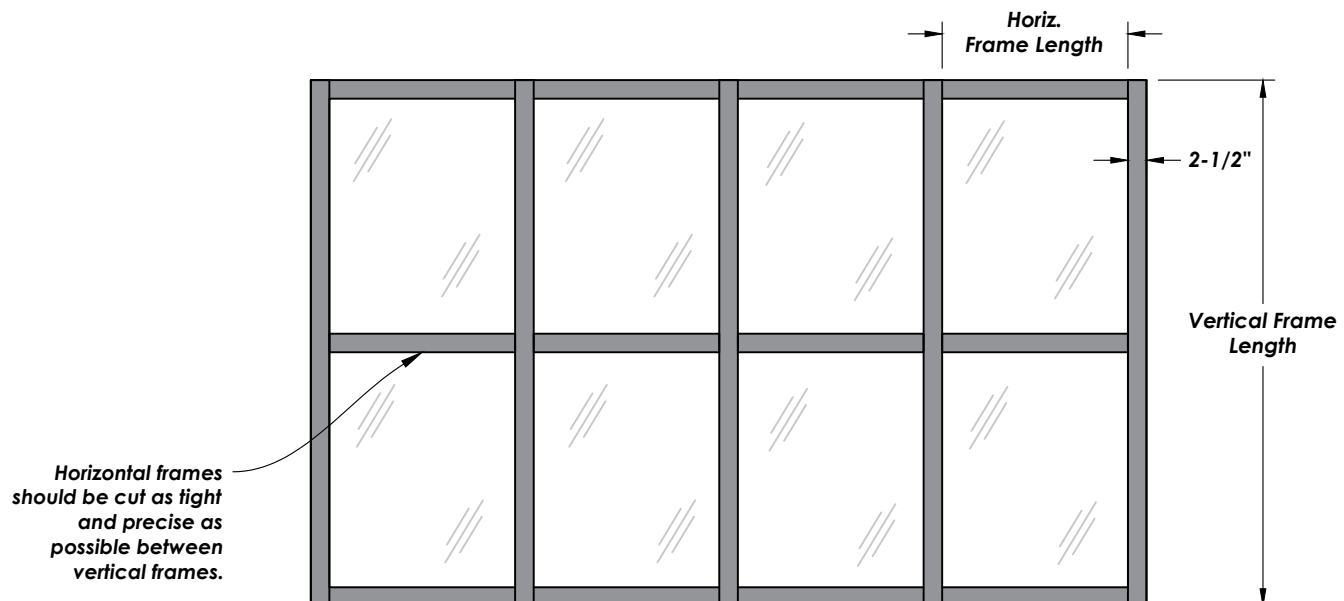

Fig. 3 This framing system is designed to be mounted in **vertical-through configuration only** for optimum system drainage and performance.
- Cut mullions to size as per site measurements and/or shop drawings. This product is designed to be installed as a **vertical-through** framing system only, with horizontals always running between vertical frames. Failure to install this system in this manner could result in air/water breeches and drainage problems which Alumicor is not responsible for. **See Figure 3.**